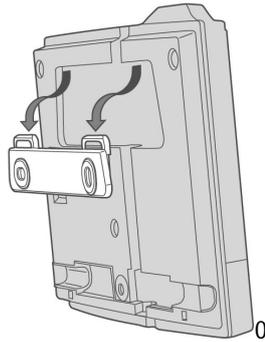

Figure 2: Attach the Unit to the Screw bracket.
4. Assemble the Merlin on the holder and mark the third drill hole (see Figure 2).